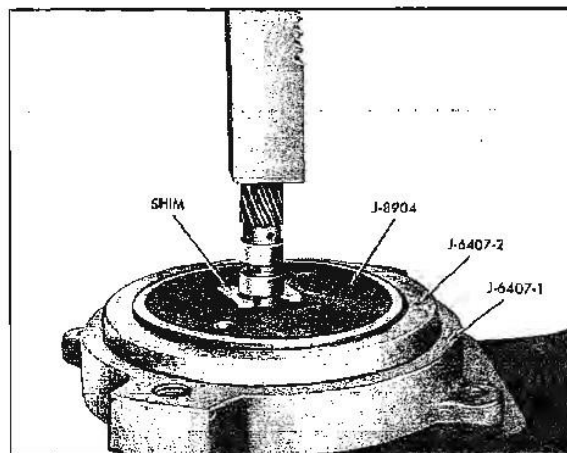

Fig. 7B-37 Installing Governor Driven Gear
5. Support end of governor sleeve (not gear) on a wooden block. Install new roll pin; then using a small chisel, stake pin in place at both ends of pin to prevent pin from becoming loose (Fig. 7B-36).